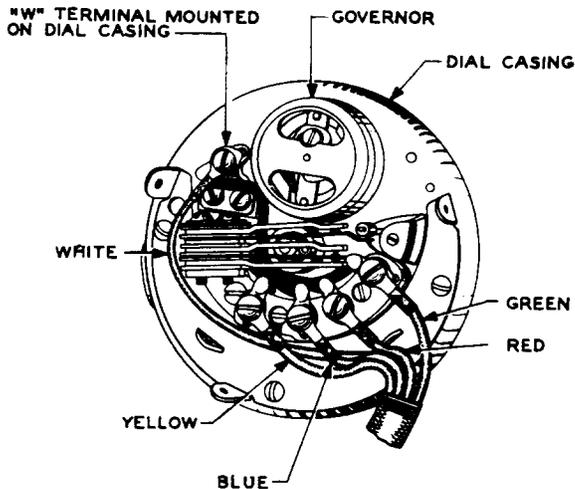

Fig. 4—Method of Cording Dials Having a Separate W Terminal Mounted Directly on the Dial Casing, Using DSP or No. 765 Cords
B. No. 34G and 34H Dial Mountings Used With Dials Having the W Terminal Mounted Directly on the Dial Casing (See Fig. 4) and Where the W Terminal Is Mounted Under the Spring Assembly Mounting Screw
Fig. 4) and Dials Having a W Terminal Mounted Under the Spring Assembly Mounting Screw: The procedure is the same as that outlined in 5.01 except that the white lead or the lead with the white tracer should be run to the left of the contact spring assembly as viewed from the terminal side of the dial with the governor uppermost.